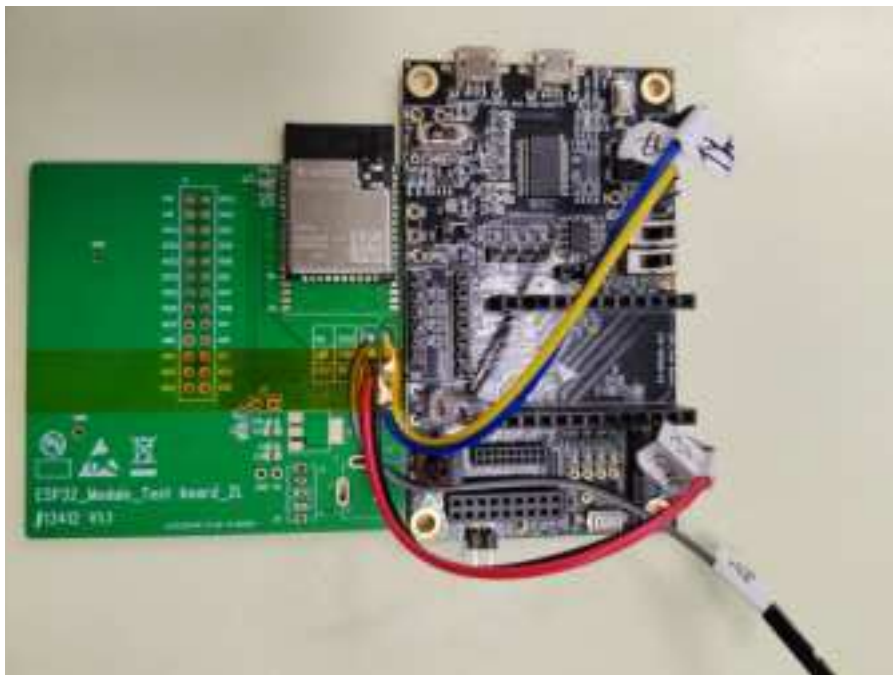

Figure 2: Hardware Connection
1. Solder the ESP32-C3-SOLO-1 module to the RF testing board as shown in Figure 2.